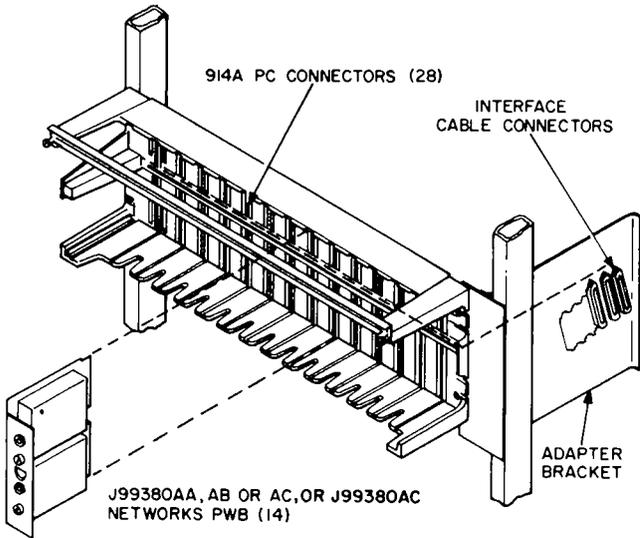
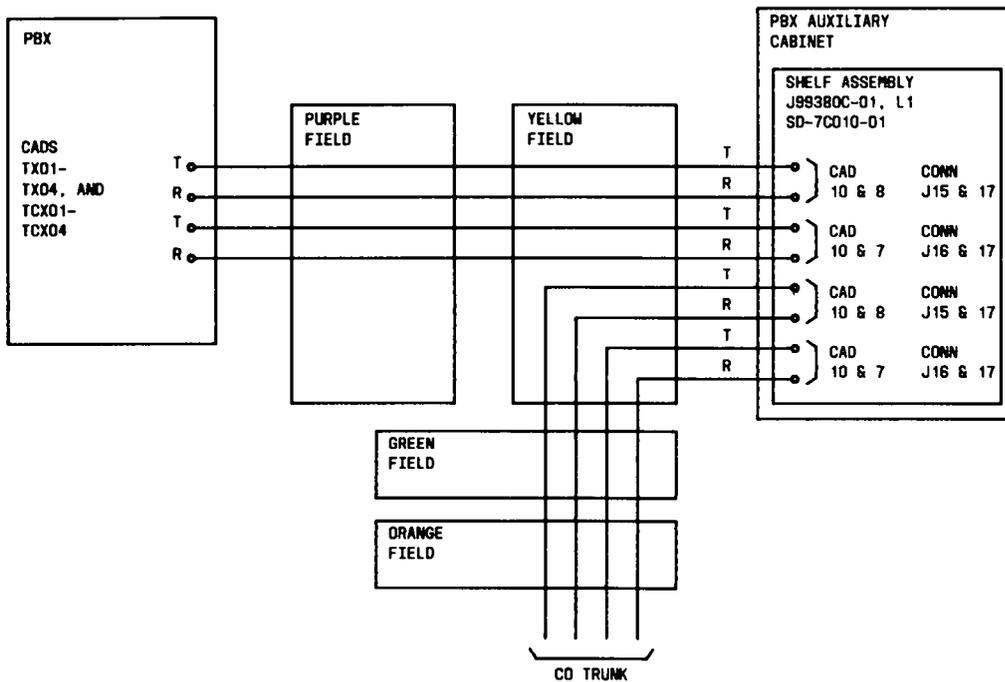

Fig. 19—Shelf Assembly for 837-Type Networks on PC Boards (J99380C)
Fig. 20—KTU-Type Shelf Assembly for Impedance Matching Network (J99380C)
4.45 The shelf assembly for 837-type networks on printed circuit (PC) boards is shown on Fig. 19. Interconnection information for the Key Telephone Unit (KTU) shelf assembly for terminal balancing is shown in Fig. 20.